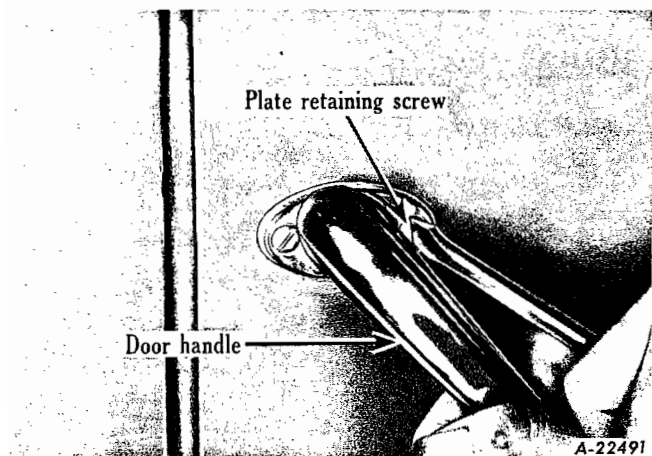

Fig. 39
7. Remove door handle plate retaining screws and door handle (Figs. 39 and 36).
3. Remove door handle plate retaining screws and withdraw door handle (Figs. 39 and 36).